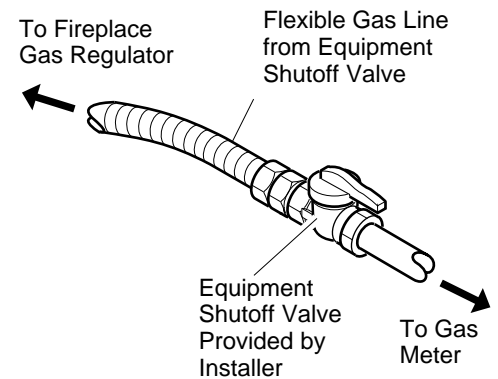

Figure 20 - Attaching Flexible Gas Lines Together
NOTICE: Most building codes do not permit concealed gas connections. A flexible gas line is provided to allow accessibility from the fireplace (see Figure 20). The flexible gas supply line connection to the equipment shutoff valve should be accessible.
4. Attach gas line from gas supply (see Figure 20). Check gas connection of flexible gas line attached to gas regulator of fireplace (see Figure 20).